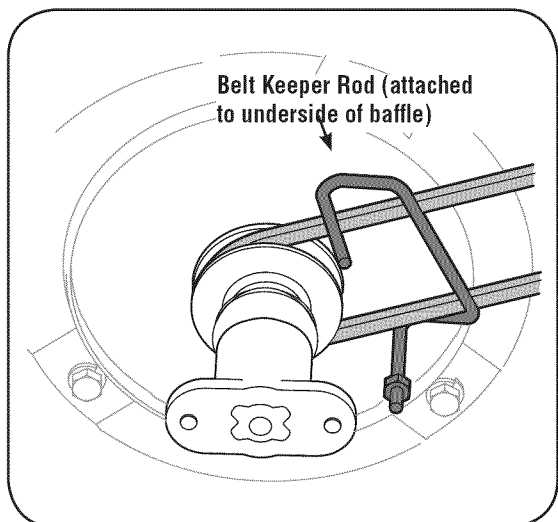

Figure 5-11: The belt should be routed to the inside of the belt keeper rod.
- NOTE: It is important that the belt is routed within the inside of the belt keeper rod attached to the underside of the baffle, Figure 5-11.**